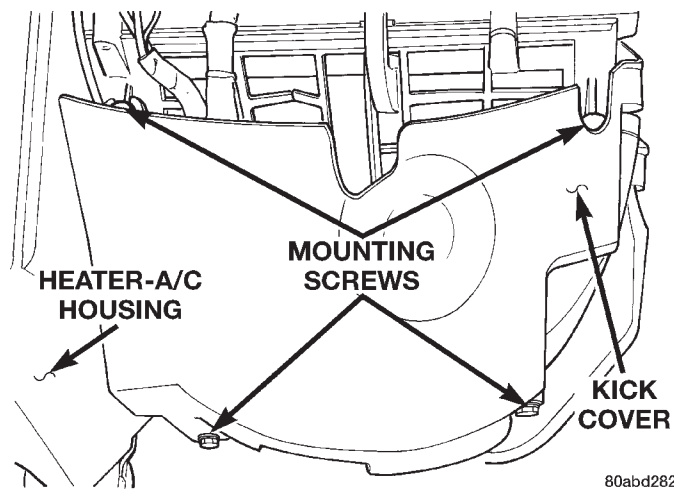

Fig. 42 Kick Cover Remove/Install
(1) Disconnect and isolate the battery negative cable.
(2) Loosen the two screws that secure the upper half of the kick cover to the heater-A/C housing under the passenger side end of the instrument panel (Fig. 42).